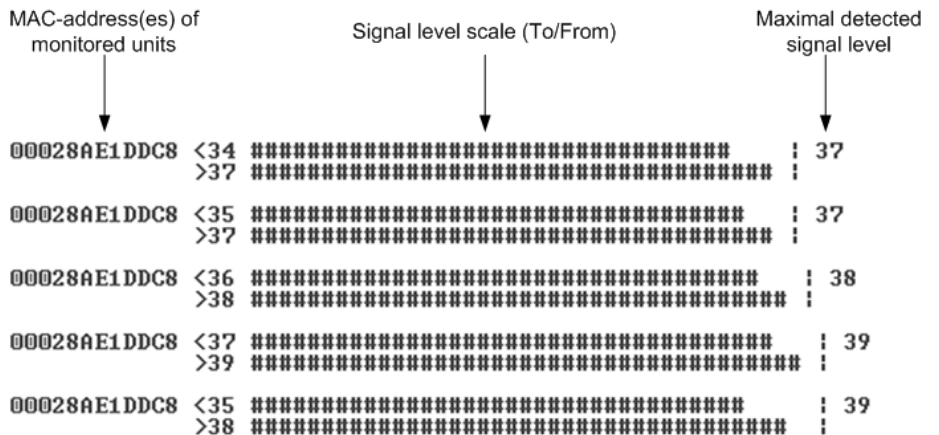

Figure 24. "mint monitor" output
2. Antenna alignment should be done only from one side at one time. Align one side, than other side. Use mobile phones to check current signal levels. The output of **mint monitor** command is demonstrated on the Figure 24.